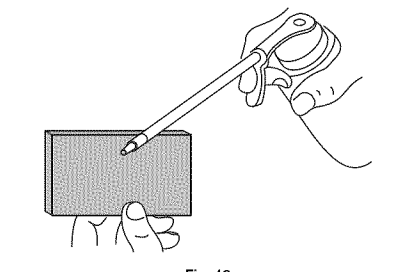

Fig. 18
- Apply enough clean SAE 30 motor oil to lightly coat the filter (Fig. 18).